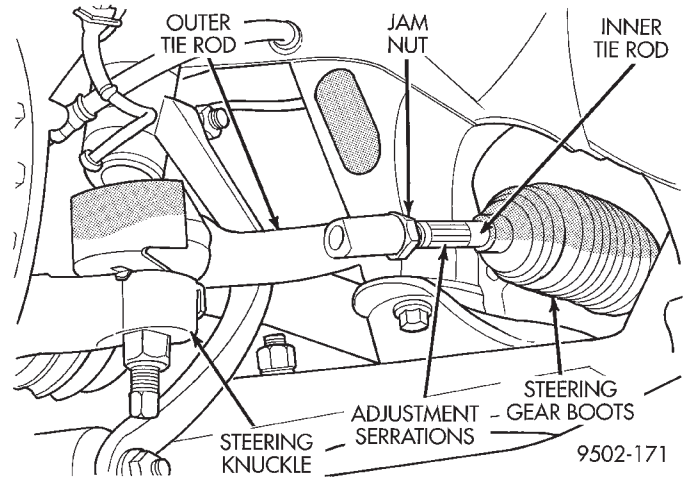

Fig. 5 Front Wheel Toe Adjustment
(2) Loosen front inner to outer tie rod end jam nuts (Fig. 5). Grasp inner tie rods at serrations and rotate inner tie rods of steering gear to set front toe to the preferred toe specification. Refer to WHEEL ALIGNMENT SPECIFICATIONS in this group of the service manual for preferred specification.
(3) Tighten tie rod jam nuts (Fig. 5) to 61 N·m (45 ft. lbs.) torque.